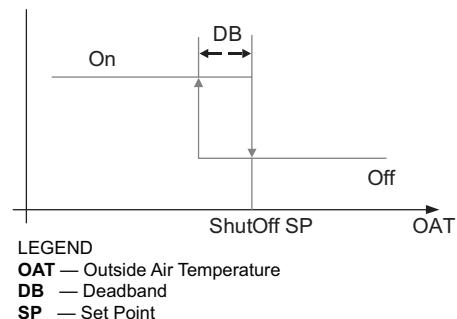

Fig. 65 — Hysteresis Settings
Hysteresis setting (DB) defaults to 2°F (-16.6°C). See Fig. 65.